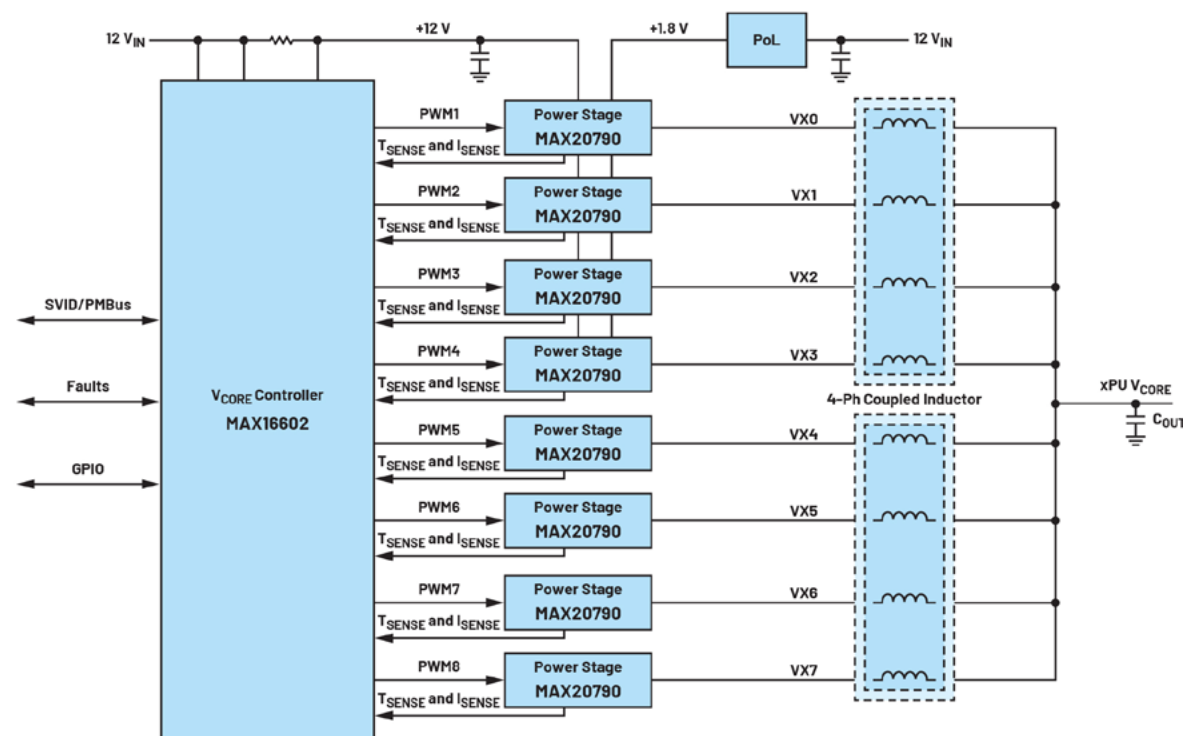

Figure 2: An 8-phase VR design with ADI's high integration power chipsets facilitate a high density design with less external connections.
effects also requires some type of high accuracy dynamic voltage positioning or load line scheme. ADI is heavily invested in the AI market and has a complete portfolio of solutions for both 48 V and 12 V systems. This section of the article proposes the ADI AI multiphase power chipsets, the MAX16602 multiphase controller and MAX20790 power stage, along with our patented coupled inductor (CL) technology to help address these AI PoL design challenges. Figure 2 shows the MAX16602, MAX20790, and CL high level block diagram connection for an 8-phase MAX16602CL8_EV design. This relatively clean design achieves a high current delivery capability of $\sim 88 A_{PK}$ per phase. The internal compensation and advanced control algorithm, along with the integrated current sensing circuits in the power stage and coupled inductor, make it a small solution with best-in-class efficiency.